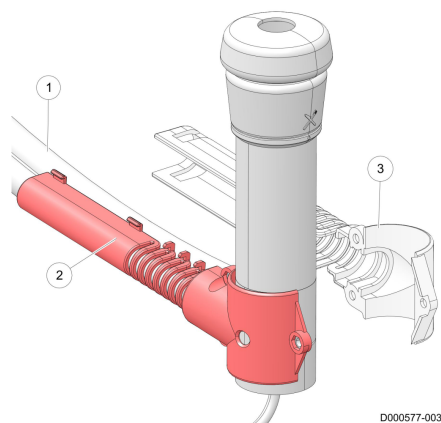

Figure 37. Install the first part of the twin tube cover
5. Install the (smaller) part (2) of the twin tube cover over the pulsation tube of the twin tube (1) (see figure 37 on page 5-18).